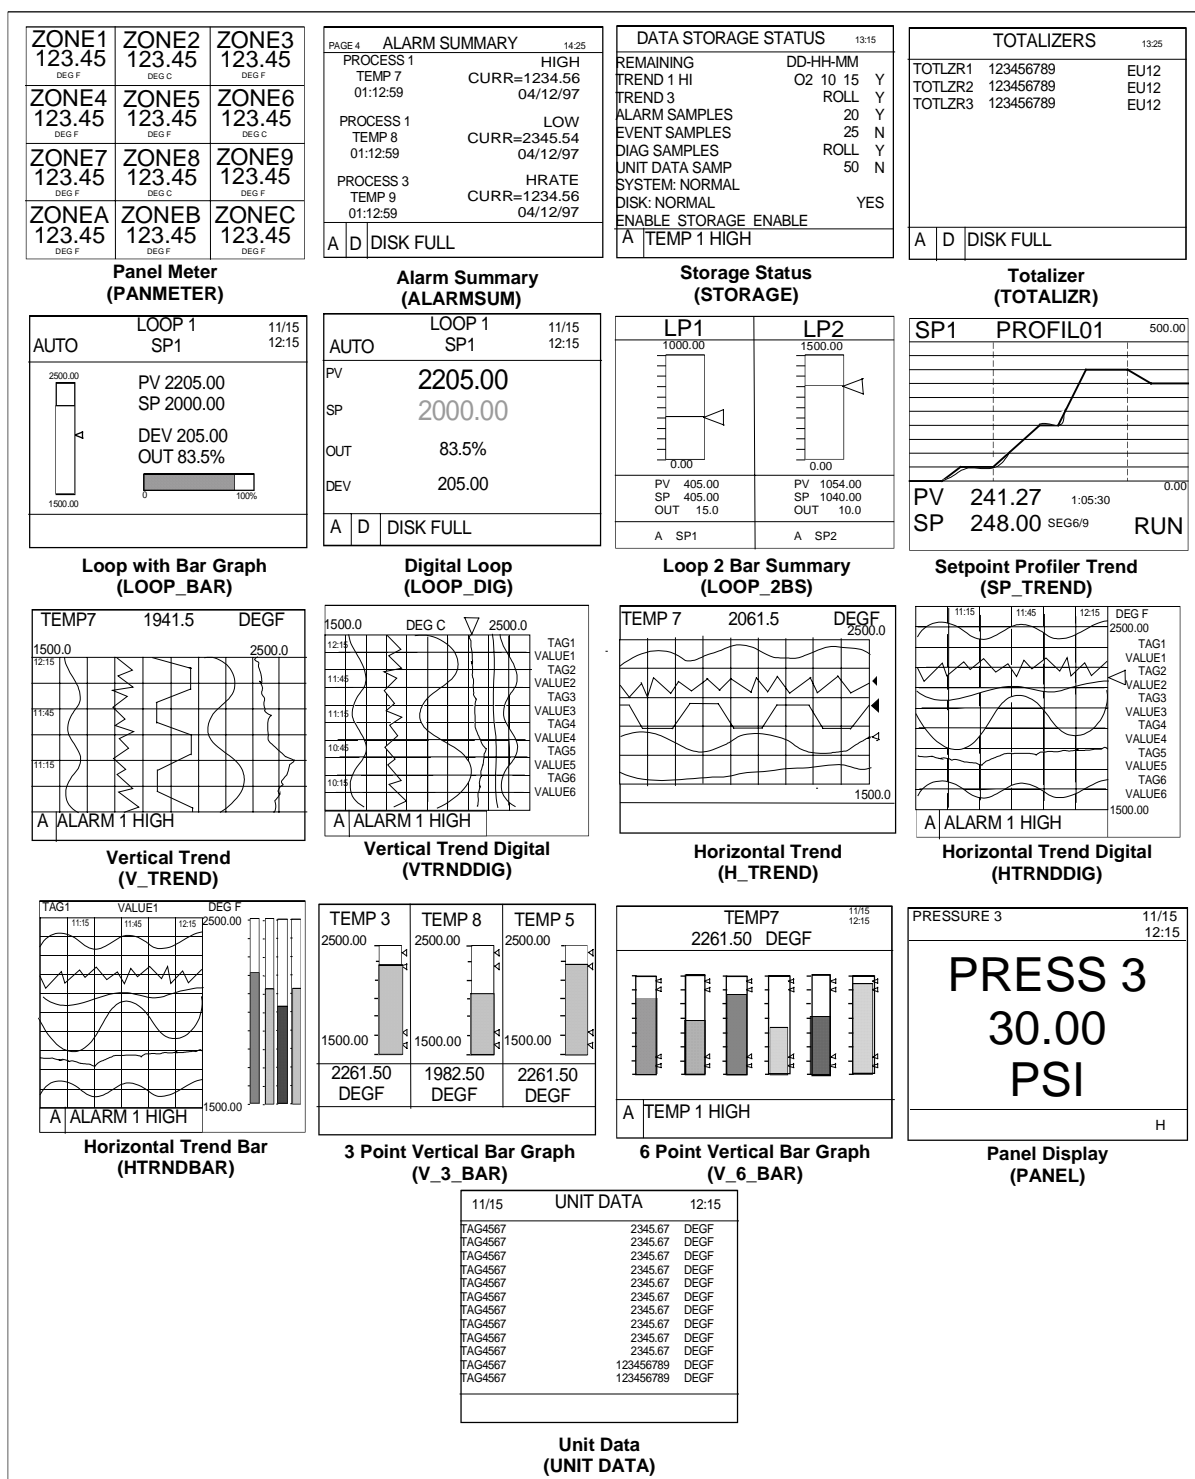

Figure 2 Primary Display Formats
Operator responses are enhanced with improved presentation of data. More information is conveyed using a versatile library of 18 different primary display formats. (See Figure 2.) These include time-based trends, bargraphs, unit data, panel faceplates, totalizer, alarm summary, data storage, setpoint
- Setpoint Programmer Trend and Summary screens for monitoring and controlling the process (Figure 2).